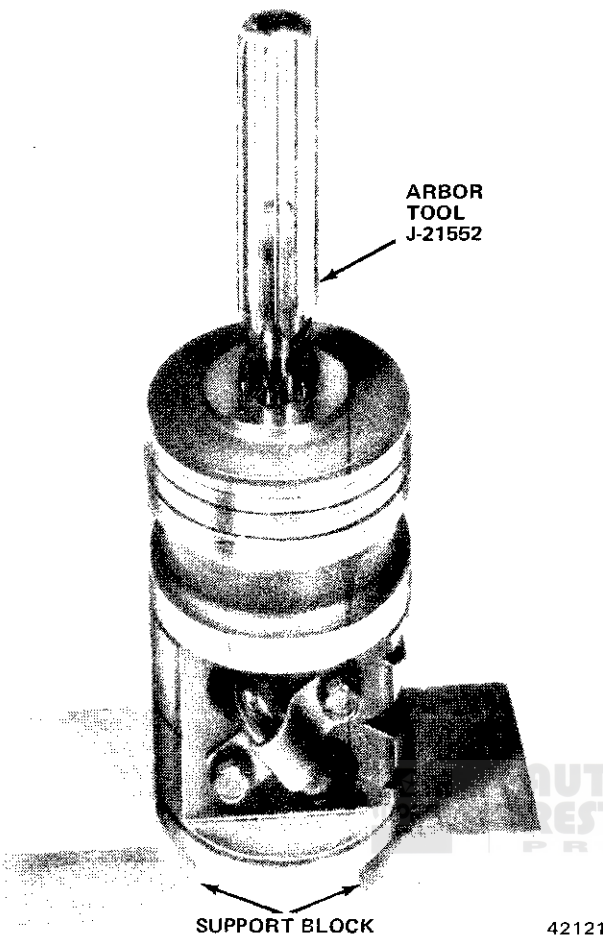

Fig. 2L-36 Arbor Tool Installed In Rack Piston
(12) Position assembled rack piston and arbor tool on end and support assembly on wood blocks until ready to install in housing (fig. 2L-36).